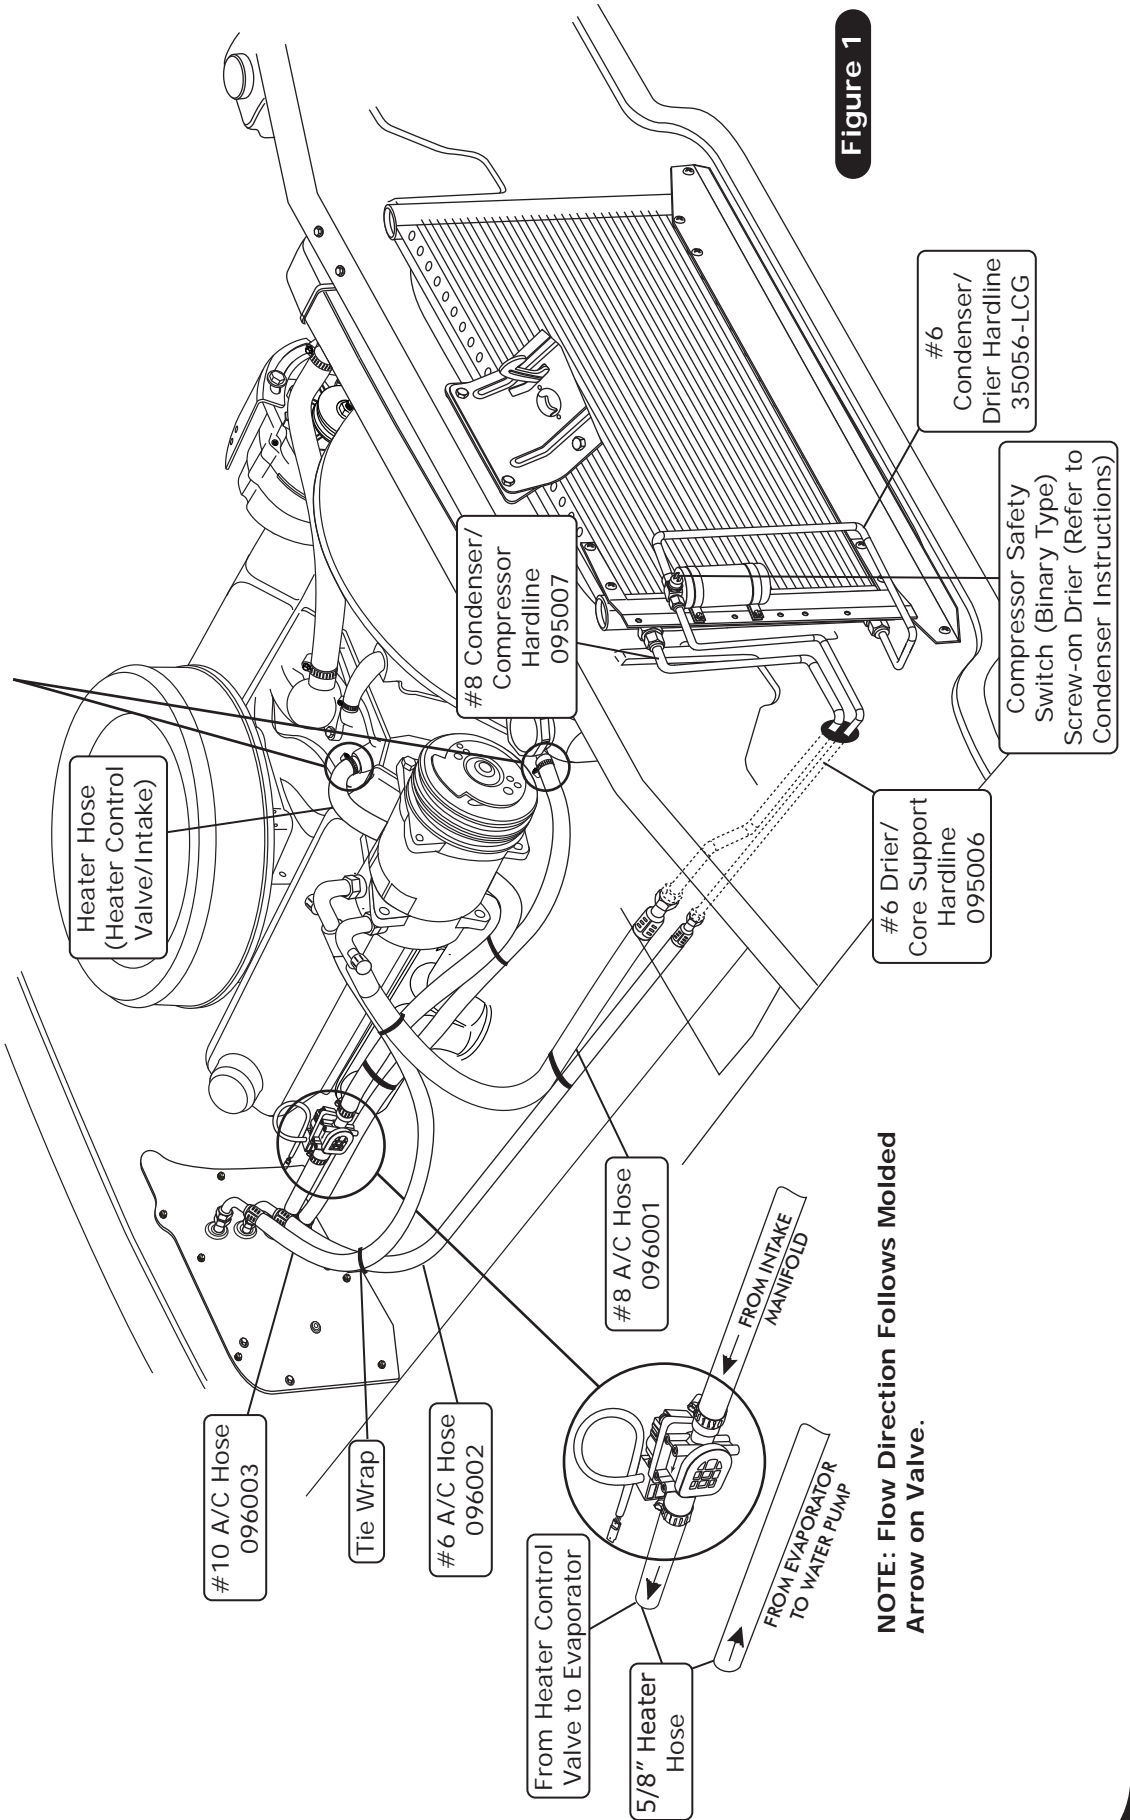

Figure 1
1. Locate the #8 compressor A/C hose. Lubricate (2) #8 O-rings (See Lubricating O-rings, Page 8) and connect the #8 135° female fitting with service port to the #8 discharge port on the compressor. Then route the straight female fitting to the #8 condenser hardline coming through the core support (See Figure 1, Page 19). Tighten each fitting connection as shown in Lubricating O-rings, Page 8.
2. Locate the #10 compressor A/C hose. Lubricate (2) #10 O-rings (See Lubricating O-rings, Page 8) and connect the #10 135° female fitting with service port to the #10 suction port on the compressor. Then route the 90° female fitting to the #10 evaporator hardline coming through the firewall cover (See Figure 1, Page 18, and Figure 1, Page 19). Tighten each fitting connection as shown in Lubricating O-rings, Page 8.
3. Locate the #6 evaporator A/C hose. Lubricate (2) #6 O-rings (See Lubricating O-rings, Page 8) and connect the straight female fitting to the #6 condenser hardline coming through the core support. Then route the 90° female fitting to the #6 hardline coming through the firewall cover (See Figure 1, Page 18, and Figure 1, Page 19). Tighten each fitting connection as shown in Lubricating O-rings, Page 8.
1. Route a length of heater hose from the lower heater hardline to the water pump fitting, and secure it using (2) hose clamps (See Figure 1, below, and Figure 1, Page 19).
2. Cut a length of heater hose approximately 4" to 5" from the firewall cover, then install it onto the upper heater hardline. Install the heater control valve and secure with (2) hose clamps (See Figure 1, below).
**NOTE: Ensure proper flow direction through the heater control valve. The flow direction follows the molded arrow on the valve (See Figure 1, below).**
3. Install another length of heater hose from the heater control valve to the intake, then secure it with (2) hose clamps (See Figure 1, below, and Figure 1, Page 19).